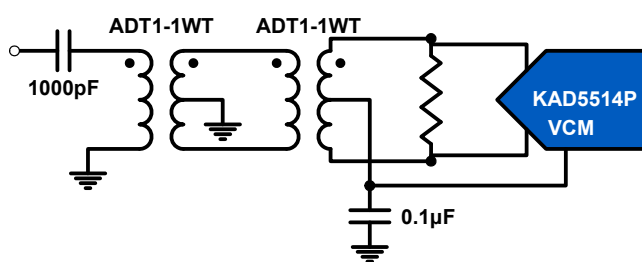

Figure 29. Transformer Input for General Purpose Applications
Best performance is obtained when the analog inputs are driven differentially. The common-mode output voltage, VCM, should be used to properly bias the inputs as shown in Figures 29 through 31. An RF transformer gives the best noise and distortion performance for wideband and/or high Intermediate Frequency (IF) inputs. Two different transformer input schemes are shown in Figures 29 and 30.